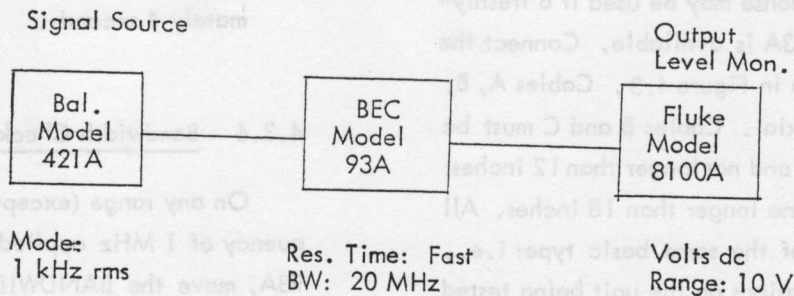

Figure 4.1. Midband Accuracy Checks
Connect the equipment as shown in Figure 4.1, using coaxial cable for the input signal lead to the Model 93A. Set the signal source to the levels specified in Table 4.2, and the Range switch of the 93A to correspond. Work through the table, noting or recording any deviation of either the indicator readings or the Recorder dc output voltage from the values given in the table.
Connect the equipment as shown in Figure 4.1. Set the signal source to the levels noted in Table 4.3; the dBm indications of the 93A should fall within the limits shown in the table.
a. Refer to Section 4.3.1, Figure 4.1, and Table 4.2. With 10.00 mV input on the 10 mV range, note the Recorder output. If it is outside the limits, adjust R539. Note the panel indicator reading; if this is outside the specified limits, adjust R903.